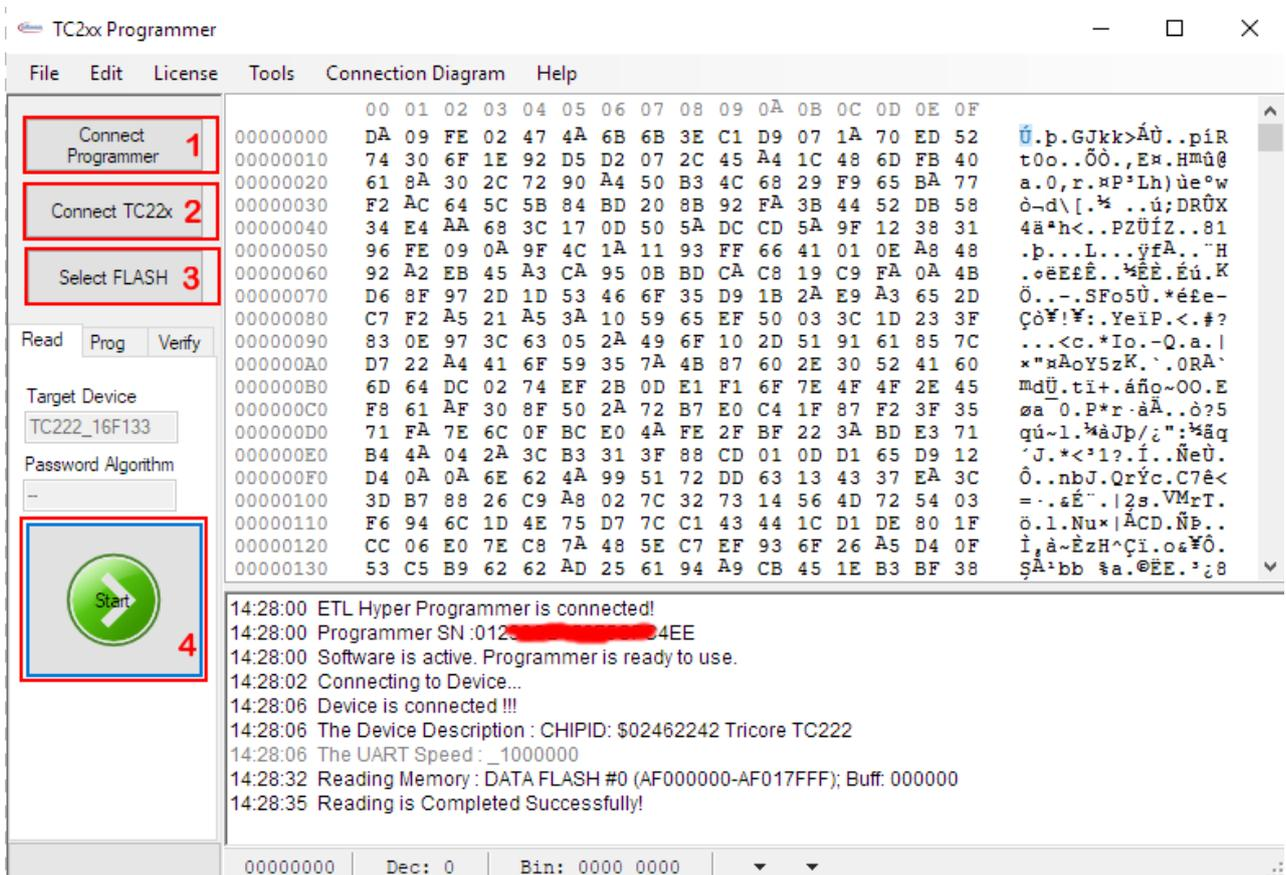

Figure 18 TC2xx-Programmer reading sequence.
- Press "Connect Programmer" button on TC2xx-Programmer software (Figure 18)